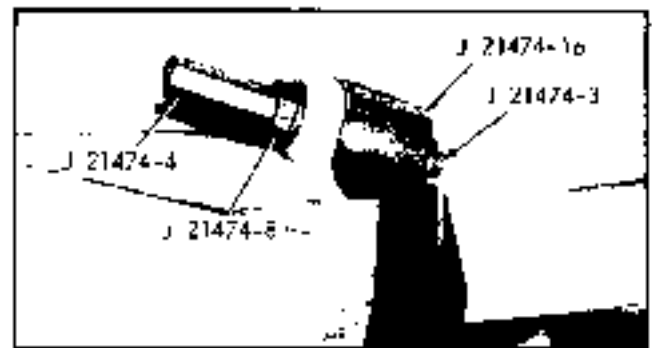

Fig. 4-5 Removing Upper Control Arm Rear Bushing - Pontiac and Tempest
2. Arrange tools as shown in Fig. 4-5 and press bushing from axle housing.